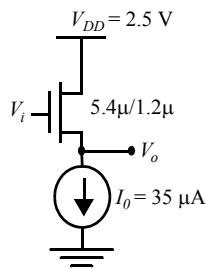

Figure 0.6 Source-follower level converter.
- [M, None, 3.3.2] The circuit of Figure 0.6 is known as a *source-follower* configuration. It achieves a DC level shift between the input and output. The value of this shift is determined by the current I_o . Assume $\gamma = 0.4$, $2|\phi_f| = 0.6$ V, $V_{T0} = 0.43$ V, $k' = 115 \mu\text{A}/\text{V}^2$, and $\lambda = 0$. The NMOS device has $W/L = 5.4\mu/1.2\mu$ such that the short channel effects are not observed.